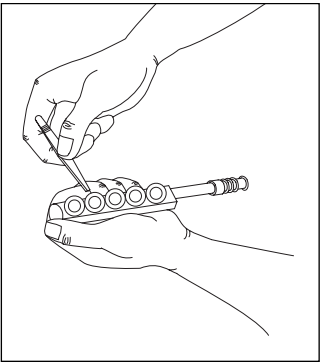

Figure 9.15
- 2. Carefully remove existing gaskets with non-metallic tweezers. (Figure 9.15).